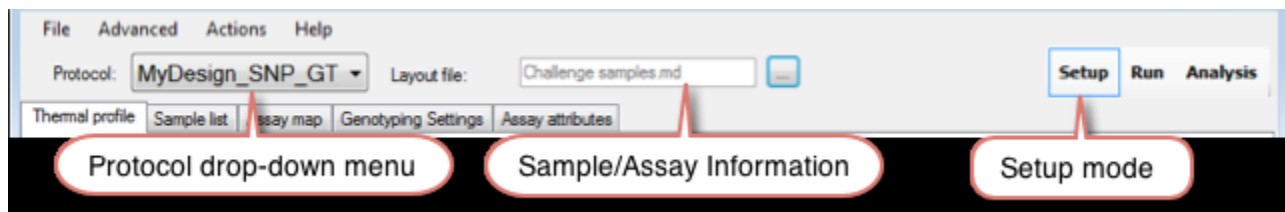

Figure 49. Entering information about your SNP genotyping experiment.
1. Select Setup mode by clicking on the *Setup* tab in the top right corner (Figure 49).